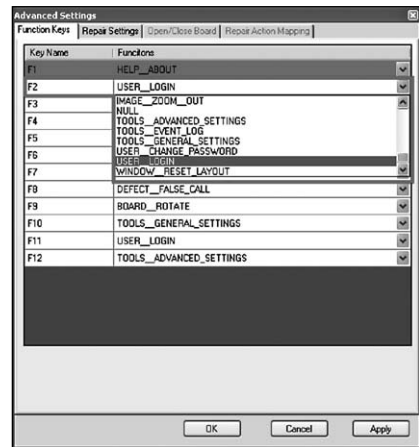

Figure 3. Available functions shown
3. The F1 Key is locked to the HELP feature so assigning Hotkeys will start from the F2 key. To assign **View Next Image** (as in ART3.1) function to a function key, select the key to be assigned (key F2 is used in this example) and click to open the drop down box to view a list of available functions that can be assigned as show in Figure 3.